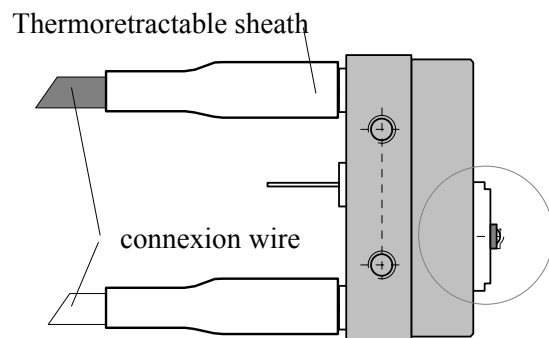

fig. 6
The micro switch must be replaced if results have allowed to discover something wrong with the works(cf. 1-5-2 et 1-5-3 ) or, after an observation with lenses, if its grain appeared very worn ( the fig. 6 shows a new 10 times magnified micro switch grain ). A certain worn degree is bearable (on its half height). This is illustrated by the raise of the difference between SAR and SAE.
**Lay out** the cover (cf. 2-2-1 ou 2-3-1 ). **Disassemble** the cale which hangs on the micro switch (cf. 3-2-2 ). **Turn over** the set, **loosen** the screws M2, **separate** and **turn over again**, the micro switch which hangs on its cables extremities appears as shown on the fig. 6. With the scalpel, **split** the thermoretractable sheath sections. **Make them slip** to see the welding. **Unsolder** and **extract** the two connection wires. **Take off** the sheathes
**Retract** the sheathes with a heat source, or better with a hot-air gun ,or a hair-drier, and as a last solution the soldering copper pane covered by adhesive ribbon. In that case slip the pane along and around the sheath until the appearance of the fig. 6 is obtained.